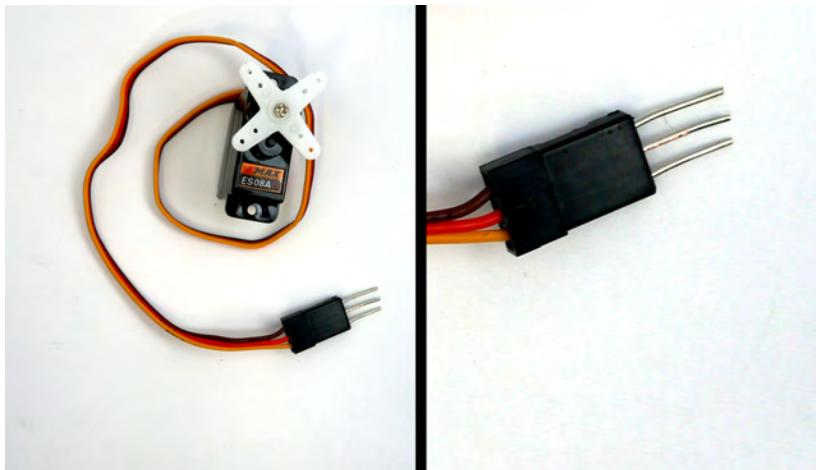

Figure 3-2. Servo motor with mechanical attachment and modified servo motor wire connector (left); close-up of modified servo motor wire connector (right)
2. Assemble the servo motor with the appropriate mechanical assembly attachment, as shown in Figure 3-2 (left).
3. Strip insulation from three $\frac{1}{4}$ -inch solid wires and insert them into the servo motor's mini connector, as shown in Figure 3-2 (right).